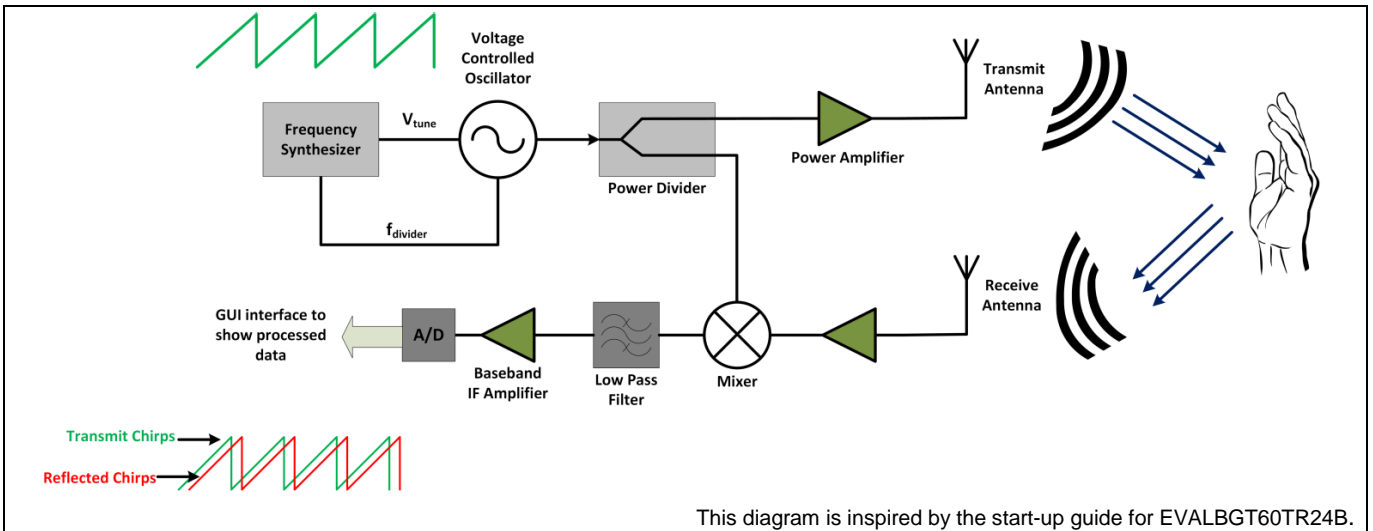

Figure 2 FMCW radar system block diagram
Figure 2 shows the flow of a typical Frequency Modulated Continuous Wave (FMCW) radar system. A frequency modulated transmitted signal is sent through the transmit antenna. The reflected signal from the target is obtained at the receive antenna. This signal is mixed with the transmitted signal at the mixer to obtain the Intermediate Frequency (IF) output. The IF signal is then digitized at the ADC to obtain the data samples of the received output.